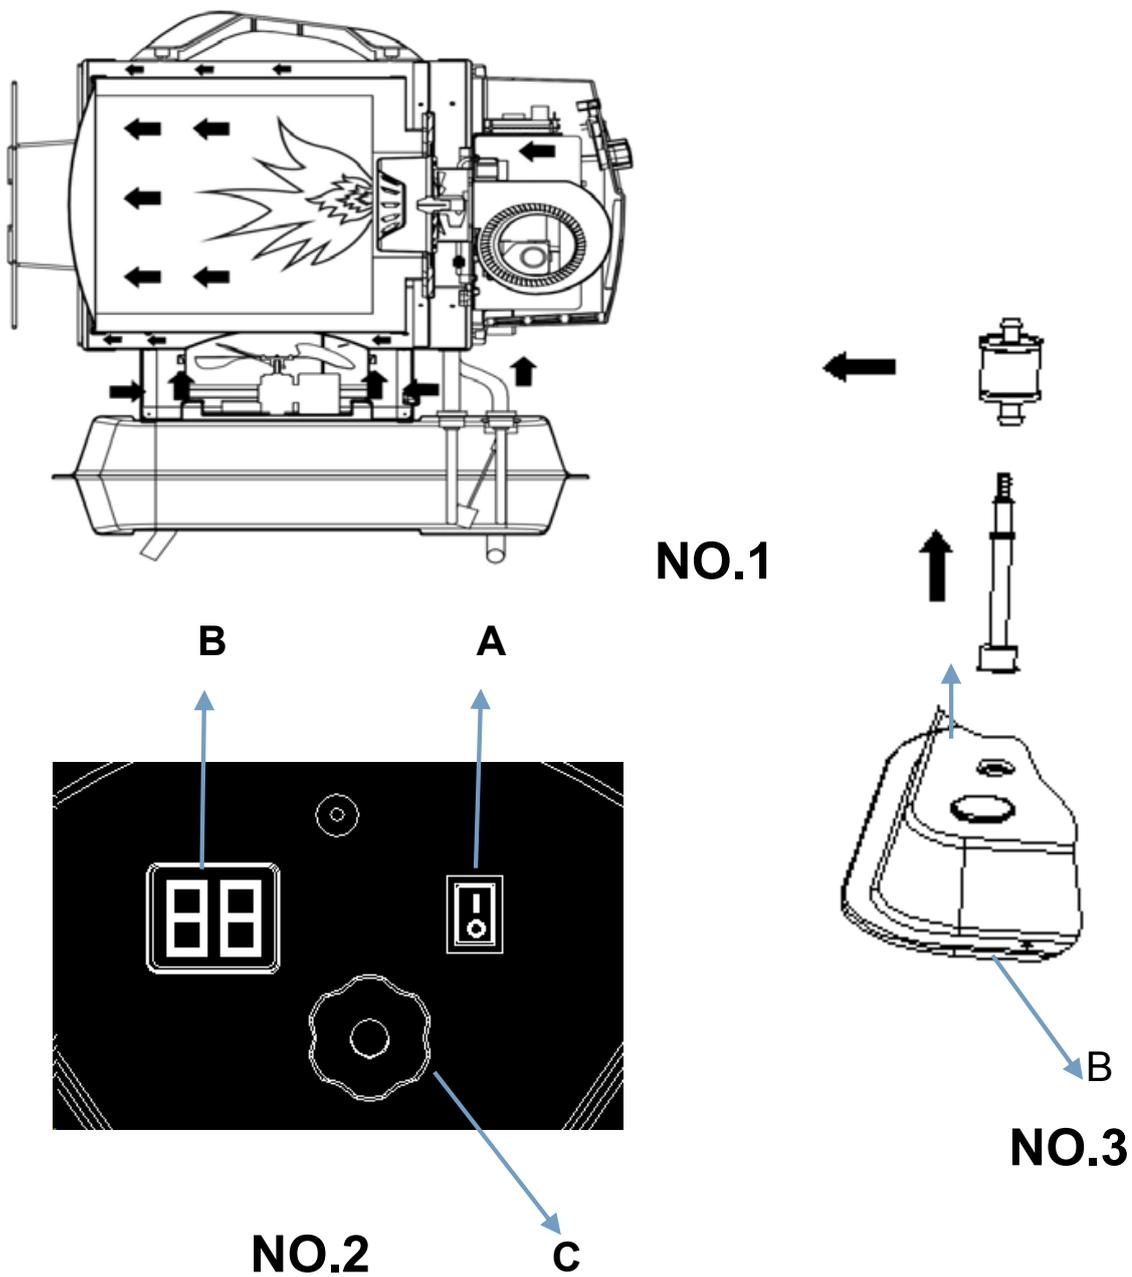

Figure 1
See figure 1 on page 4
5. Turn the "ON/OFF" Switch "ON" (I) (figure 1, No. 2, A). The generator should be online in a few seconds. If it is not, please refer to the chapter 11: "Problem identification".
6. Check the position of the thermostat (figure 1, No. 2, C)
1. Turn the "I/O (ON/OFF)" switch to "0 (OFF)". (See figure 1, No. 2, A)
1. Remove the plug on the fuel tank (see figure 1, No. 3).
2. Remove the filter from the tank (see figure 1, No. 3).
3. Take out of the oil suction pipe (see figure 1, No. 3).
See figure 1, No. 2, B